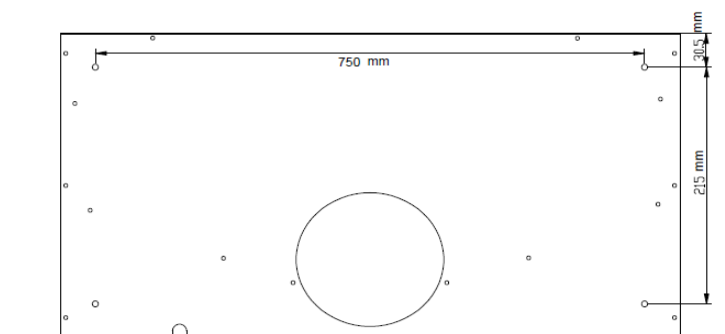

Fig. 12
- Determine where in the top cabinet you want to install the rangehood, then drill 4 holes of $\varnothing 4\text{mm}$ at the bottom of the hanging board of your cabinet (Fig. 12).